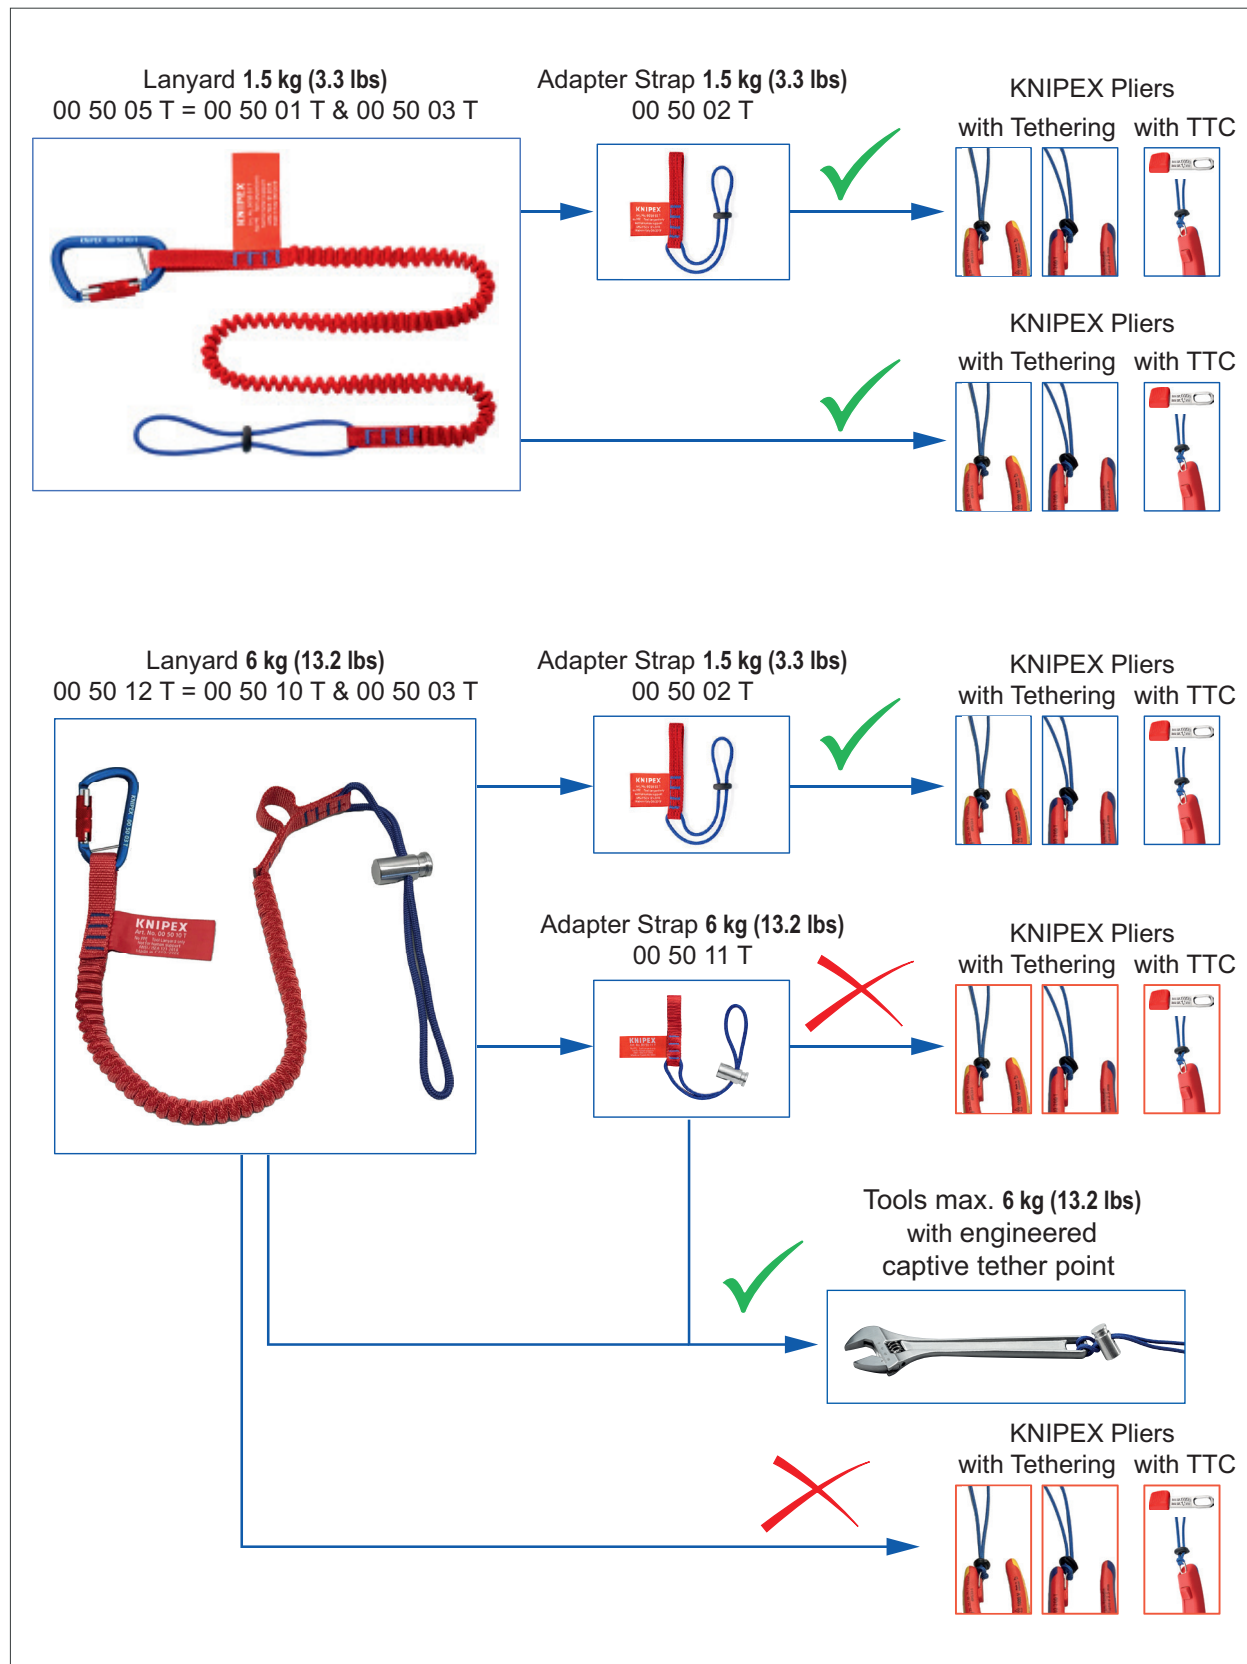

Figure 5: Compatibility to KNIPEX Tools with Tethering
- When connecting a KNIPEX Tool equipped with a tethering point to your Lanyard or Adapter Strap, check (Figure 5), to see if your Lanyard or Adapter Strap is compatible.
- To connect a KNIPEX Tool with tethering to the 6 kg (13.2 lbs) Lanyard (KNIPEX 00 50 10 T) you must use the 1.5 kg (3.3 lbs) Adapter Strap (KNIPEX 00 50 02 T) (Figure 5)